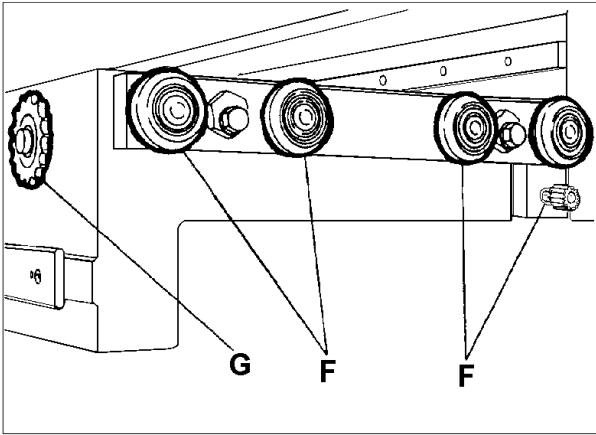

fig.7.11
c.6) Grease the sliding wheels (F) and the pinion (G), see fig.7.11.